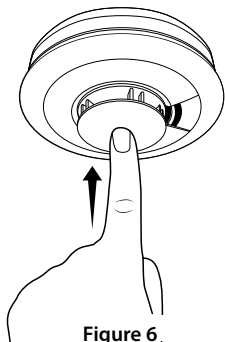

Figure 6.
- 7 Press the test button on each smoke alarm to ensure that the smoke alarm unit works, see **Figure 6**.
- Press and hold the test/silence button until the alarm sounds and the alarm LED blinks in red, see **Figure 6**. The alarm will stop sounding shortly after the button is released.